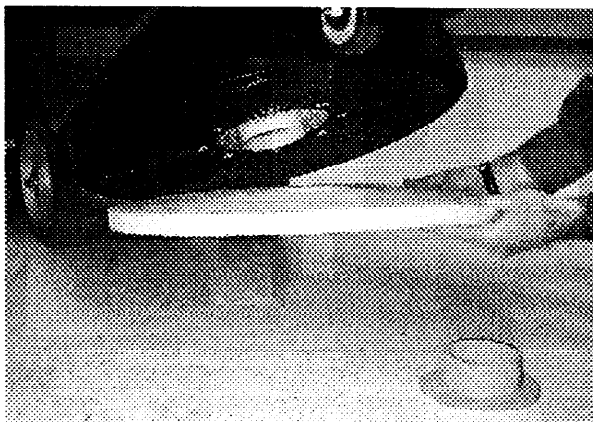

Fig. 4.
2. Remove plastic center pad lock by turning lock counter-clockwise. (Fig. 4)
4. Position pad centered on pad driver and replace centerlock securely. (Fig. 4)